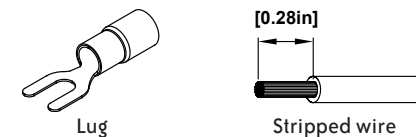

Figure 3 - Wire Type
- Use flexible cable (stranded wire) or solid wire 1.3-2.1 mm² (AWG No. 16-14.) The torque at the Connector shall not exceed 1.3Nm (11.3in-lb) The insulation stripping length should not exceed 0.28in or 7mm (Fig. 3).